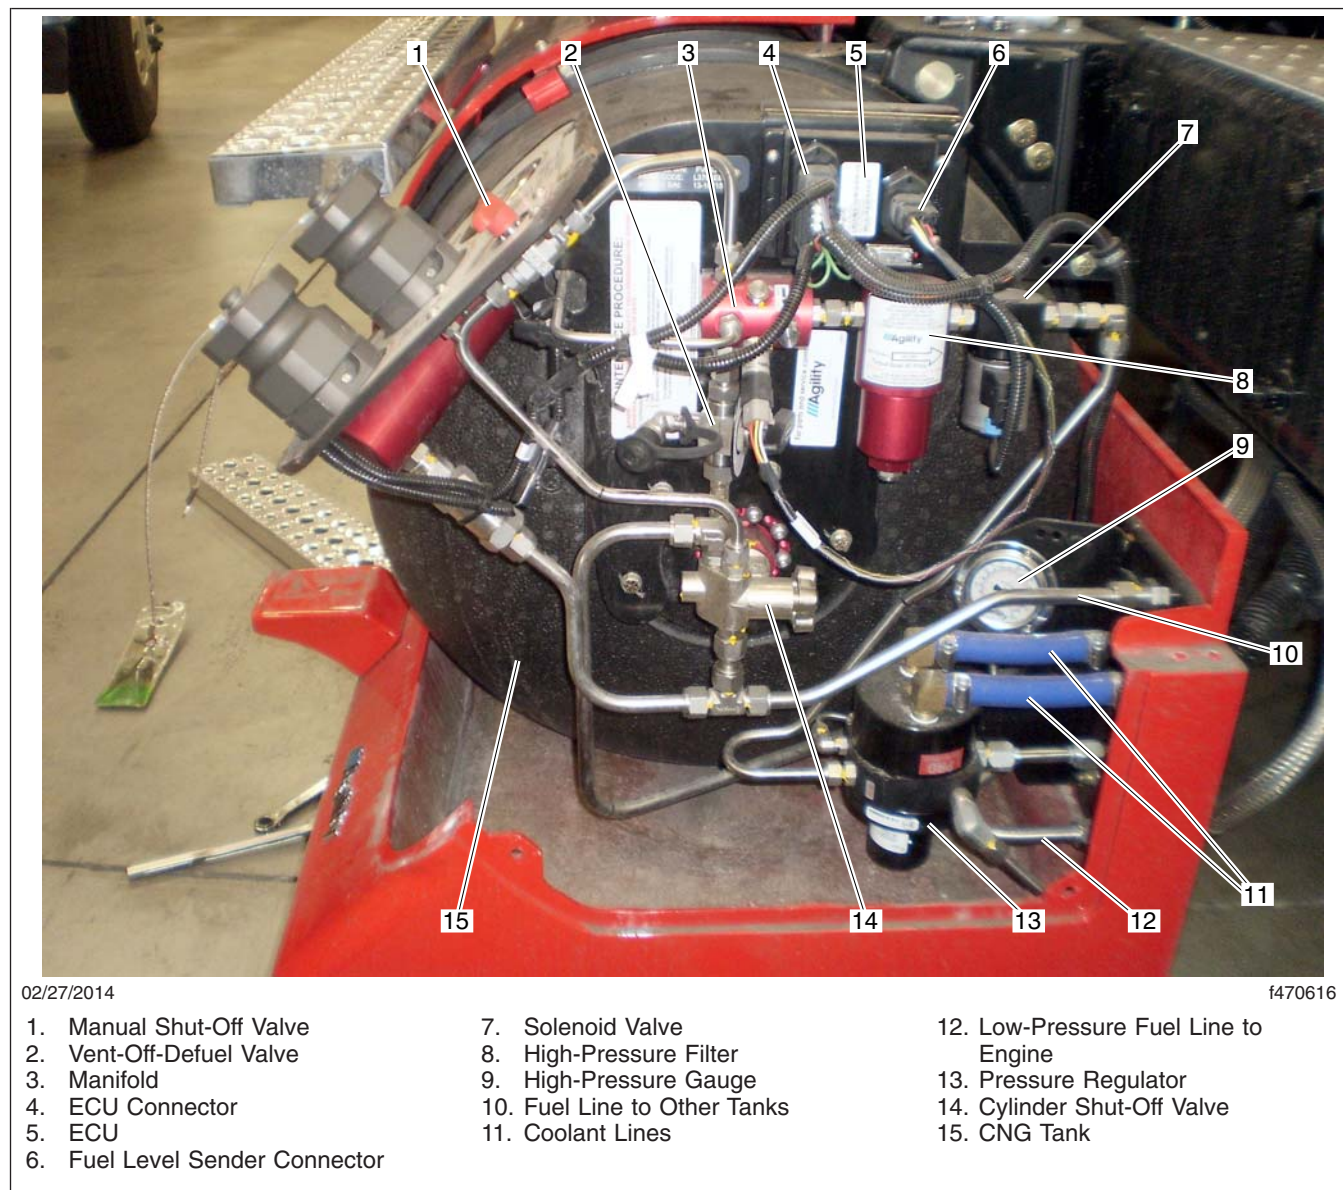

Fig. 1, CNG System Plumbing
9. Relieve the remaining pressure by slowly opening the bleed valve (or, if so equipped, move the "Vent-Off-Defuel" valve to the "Vent" position), located inside the cover housing at the fuel management module (FMM). See Fig. 1. This vents pressure and gas into the atmosphere, so take appropriate safety precautions.
2. Close the bleed valve (or, if so equipped, move the "Vent-Off-Defuel" valve off the "Vent" position). See Fig. 1.
4. Slowly turn the cylinder shut-off valves (one on each cylinder) counterclockwise to the "ON/OPEN" position. See Fig. 1.